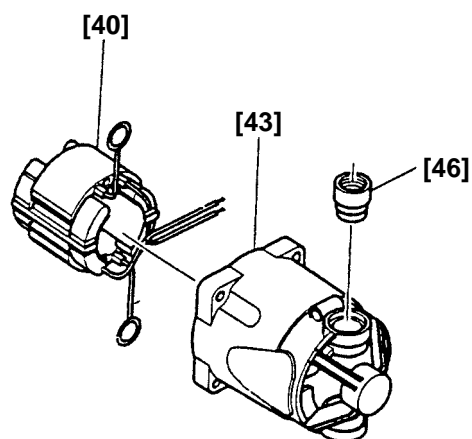

Fig. 10
(8) Removal of Housing [43] and Brush Holder [46] (Fig. 10)